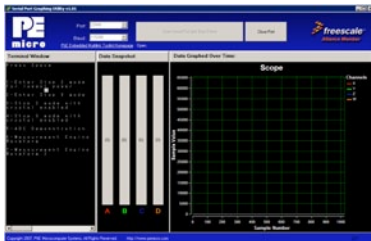

Figure 2: Low power and measurement engine demo
2. Make sure jumper J16 on TWR-SER has pins 3 and 4 connected as shown in Figure 2 of the QSG.
- Run Start menu > Programs > P&E Embedded Multilink Toolkit > Utilities > Serial Grapher Utility. Choose the same COM port number found in device manager, set baud rate to 115200 and click “open serial port and start demo.” If you do not see a list of options in the terminal window as shown in Figure 2, press the Space key from your keyboard multiple times until you see the option menu from the terminal window.